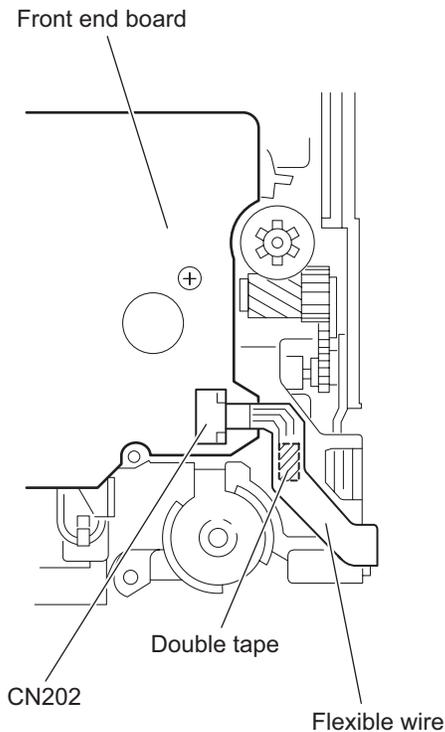

Fig.10
### 3.4.6 Removing the front unit (See Figs.10 to 12)
- Disconnect the flexible wire from connector **CN202** on the front end board at the bottom of the body. (See Fig.10.)
When reassembling, attach the flexible wire extending from the switch board using the double tape. (See Figs.10 and 12.)